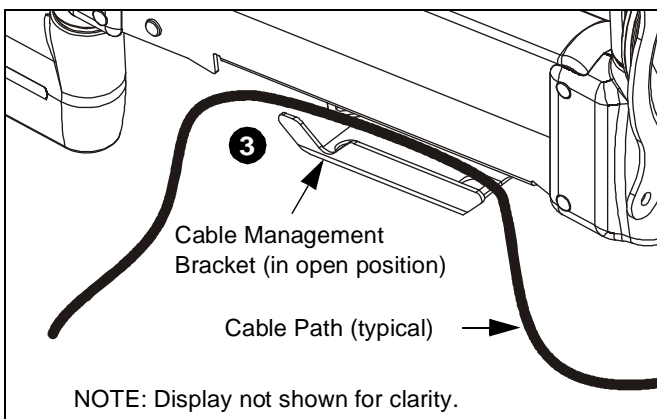

Figure 10
3. Carefully insert cables into bracket (See Figure 10).